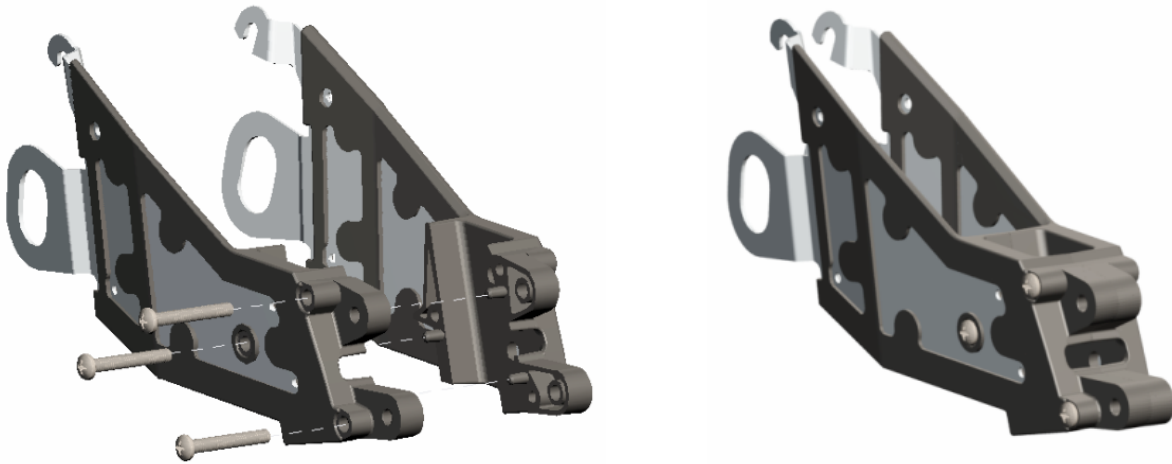

Figure 2-1
Locate and assemble the left and right firmer bracket pieces using the three (3) supplied #8 X 1.25" screws. Refer to figure 2-1.